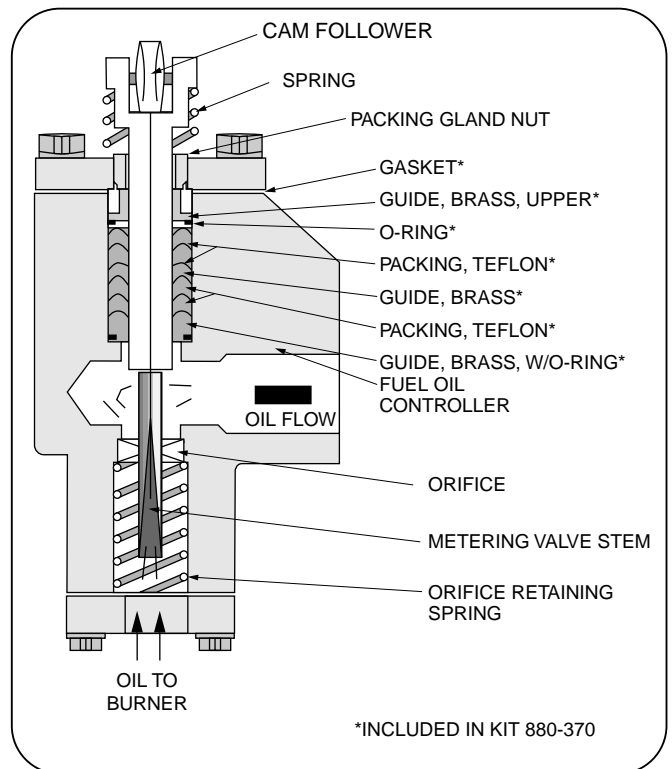

Figure 8-18: Metering Valve Packing Sequence
In the event that a leak occurs in the packing of the metering valve, the packing nut should be snugged gradually to stop the leak (see Figure 8-18).
8. Lightly coat the stem with the lubricant provided with the packing kit. Place the new packing, O-rings and guides onto the stem in the sequence shown in Figure 8-18. The beveled face of the guides and the teflon rings must face upward, with the exception of the upper brass guide